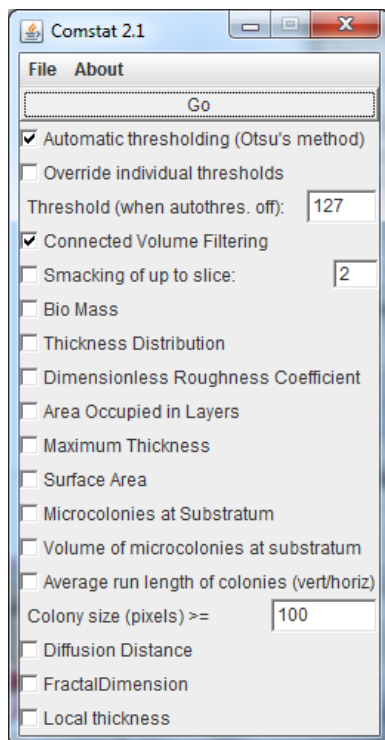
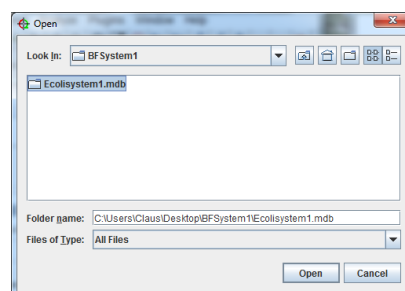
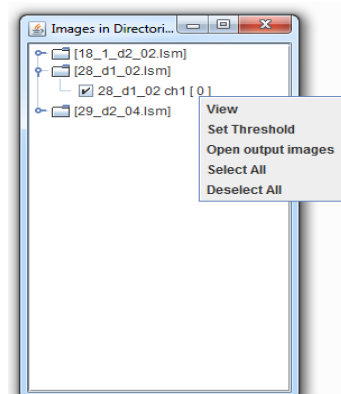

Fig 3. Comstat2 main menu (Control Panel)
Fig 6. Selecting source folder (PC)
Fig. 7. Images in Directories (PC)
screen by clicking *OK*. If the Comstat2 window does not look like Fig 3, the comstat2.ini file is not installed properly - see appendix D for troubleshooting.
Next tell Comstat2 where you have put the source files for analysis. Use the *Add* button in the Observed Directories menu to navigate to the folder containing the source files. Highlight the folder but do not double click it to enter it – see Fig. 6 for an example, where the source files are located in the folder **Ecolisystem1.mdb**. After clicking *Open* Comstat2 will load all stacks and display the stacks in the window *Images in Directories* (Fig. 7).
The Images in Directories window (Fig. 7) lists all the files that have been loaded. If a file contains more stacks and/or than one channel they are collapsed under the file name. Clicking the key (PC)/triangle(Mac) symbol expands the list to display all contained stacks and channels. A check mark indicates that a channel is scheduled for analysis. Right click on the name of the channel to display the pop-up menu. From the pop-up
For a standard analysis of images of good quality, you do not need to change any of the parameters. However, you should check that the correct decimal separator has been set. Per default, Comstat2 will check the system settings and adjust the decimal separator accordingly. To check and if needed change the decimal separator from “.” To “,” or vice versa, click *Edit* in the Comstat2 control panel (Fig. 3). Leave *Automatic Threshold (Otsu’s method)* and *Connected Volume Filtering* checked (see also Chapter 3 for explanation).
The global threshold is set in the Comstat2 control panel by specifying a value in the *Threshold (when autothres. off)* input box (Fig 3). This can be combined with individual thresholding of individual images. To set the threshold of each stack, click on the triangle symbol (mac) or key symbol (Windows) next to the stack you want to threshold in the *Images in Directories* dialog box (Fig. 7). Then, right click on the channel name and a new pop-up dialog is displayed. Click *Set Threshold*. Two image windows and a slider box are displayed. The left window shows the normal image, the right window shows the thresholded image. To set the threshold start by moving the *Slice* slider to a slice where you want to set the threshold for the image. Then move the *Adjust Threshold* slider (Fig. 8) to a position where you think a suitable threshold is applied. On the right (thresholded) image you should see an image showing only the biomass and no noise. When you are satisfied, click *Save*. On the bottom of each of the images there is also a slider bar. Do not use it for the thresholding procedure, it is there because Comstat2 uses the ImageJ build-in image viewer for displaying the two picture windows – use the slider shown in the threshold pop-up (Fig XXX). You will need to manually close the three dialog boxes (the slider box and the two image boxes). Any picture, which you have not specified an individual threshold for will be thresholded with the global value set on the Comstat2 control panel.
The *Microcolonies at Substratum* function finds all connected areas on the substratum layer of a size equal to or larger than the number of pixels defined in the box *Colony Size (pixels)* in the Comstat2 control panel (Fig. 3). Each microcolony is registered and numbered internally. The individual marked microcolonies are used for volume and run length calculations. Output reports Minimum defined colony size in pixels and μm^2 , the number of detected microcolonies, and for each micro colony the internal colony label (number), the size in μm^2 , the number of colonies of that size, and the average micro colony size in μm^2 , and the average pixel intensity of the microcolonies.